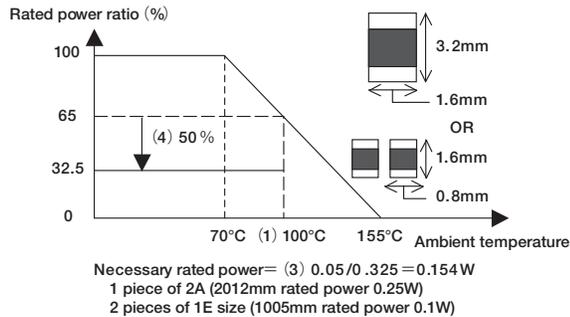

Figure 6. Selection by the traditional derating curve
- (4) Required margin of safety below rating according to designer's internal guidelines: 50%
The required power rating for the resistor using the ambient-temperature derating curve is calculated from conditions (1), (3), and (4). Figure 6 shows this result. For KOA's RK73B resistor series, one piece of 2A size, or two pieces of 1E size will be required.